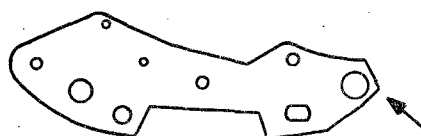

Fig. 5a
2. Besides the escapements 00381-G20 and 00476-G20 there exist the escapements 00475-G20 and 00475-G20.1 which are almost completely identical with the former, the only difference residing in the shape of the lower mounting plate (Figs. 5a and 5b). The escapements 00381-G20 and 00476-G20 are used in all shutter models having a flash contact terminal on their rear side, whereas the escapements 00475-G20 and 00475-G20.1 are used in shutters having a contact nipple on their periphery.